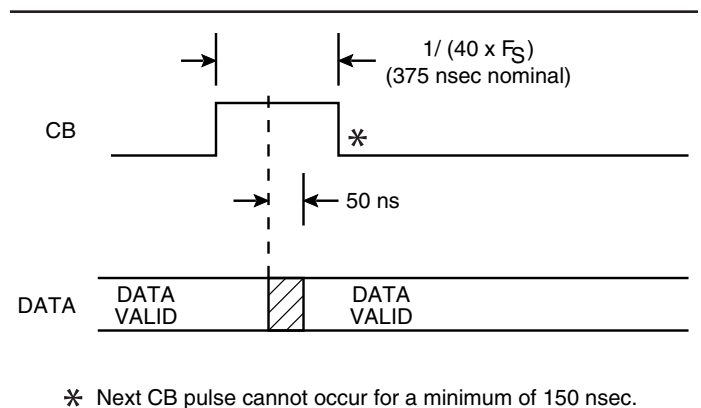

FIGURE 15. CONVERTER BUSY TIMING
The Converter Busy (CB) signal indicates that the tracking converter output angle is changing 1 LSB. As shown in FIGURE 15, output data is valid 50 ns maximum after the middle of the CB pulse. CB pulse width is $1/(40 \times F_s)$, which is nominally 375 ns.
Note: The converter \overline{INH} may be applied regardless of the CB line state. If the CB is busy the converter \overline{INH} will wait for the timing to CB “Figure 15” before setting the \overline{INH} latch. Therefore, there is no need to monitor the CB line when applying an inhibit signal to the converter.